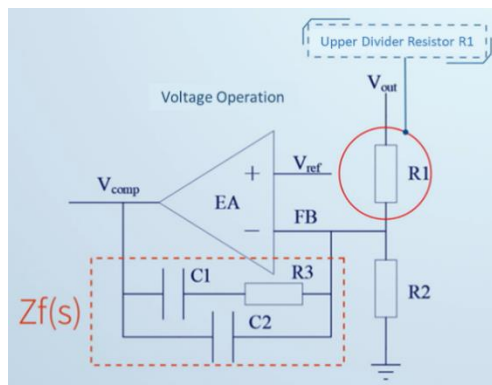

Figure 5: Voltage-Mode Operational Amplifier
The FB resistance also impacts the loop characteristics inside the chip. When the FB network is comprised of a single resistor, the gain of the voltage-mode op amp and the error amplifier (EA) are related to the upper voltage resistor divider ($R1$). In the scenario where the dynamic load requires ripple, the $R1$ value can be adjusted for further optimization. Figure 5 shows the voltage-mode op amp.